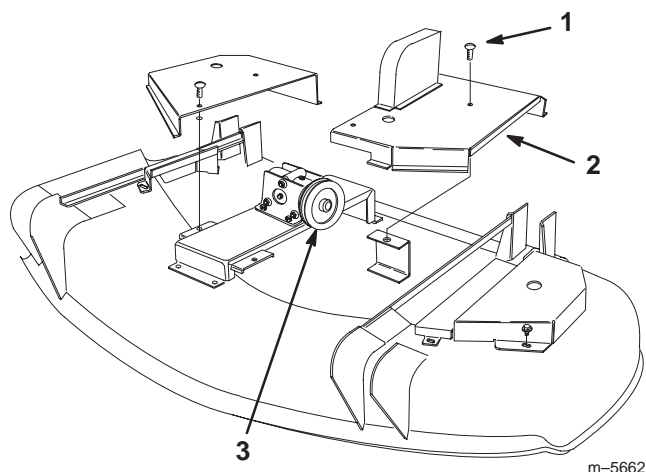

Figure 6
1. Loosen the 2 fasteners on the left center deck cover. Remove the left center deck cover to expose the gearbox input pulley (Fig. 6).
4. Install the left center deck cover onto the deck with fasteners (Fig. 6).